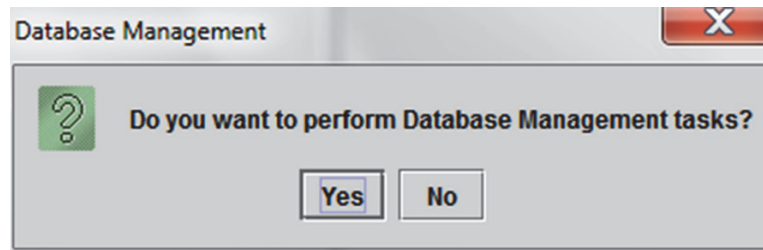
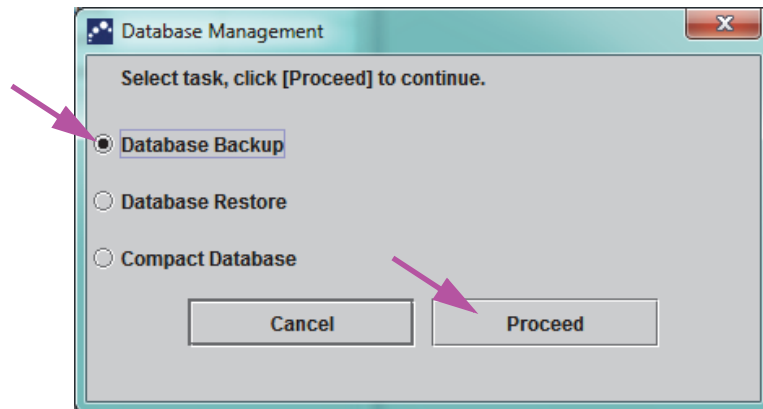

Figure 5-62. Database Management Dialog Box
Figure 5-63. Database Management Window
The GeneXpert system administrator specifies whether you have permission for the data management tasks. See Section 2.13, Defining Users and Permissions. See the GeneXpert system administrator to adjust the permissions to meet your requirements. If **Database Management Reminders** are enabled, the user is prompted on startup whether to perform database management. The prompt appears only if the user has privileges to perform these tasks. If the user does not have any of these privileges or if **Database Management Reminders** are disabled, the prompt will not be displayed. See Figure 5-62.
8. **If you do not want to perform database management tasks**, click **No** in the Database Management dialog box (see Figure 5-62).and skip to Section 5.2.3.2, Archive Overdue Reminder.
If you want to perform database management tasks, click **Yes** in the Database Management dialog box (see Figure 5-62). The Database Management window appears. See Figure 5-63.
1. Select **Database Backup** on the Database Management window (see Figure 5-63).